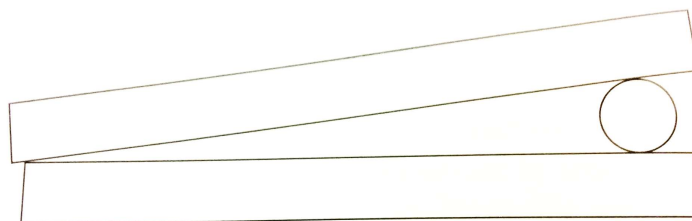

FIGURE 7.12. Example 7.7.
- Two microscope slides are used to evaluate the thickness of an ultrathin wire. The experimental arrangement is as shown in Fig. 7.12, with the light source being a green laser at 550 nm. The contact between the two slides is of course a dark fringe, and at the position of the wire the eighteenth dark fringe appears. What is the thickness of the wire?